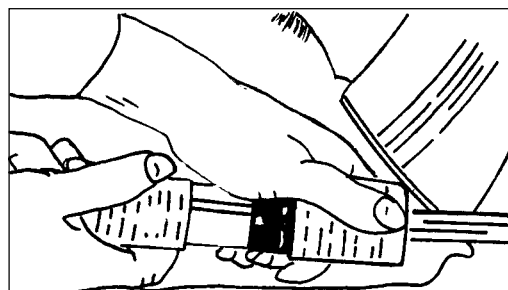

Figure 4
2. Make sure the control switch is in the "Off" position then connect the supply cable to an appropriately grounded fused circuit. For machines that are equipped with a motor pigtail, connect the supply cable to the motor pigtail. (Figure 4)